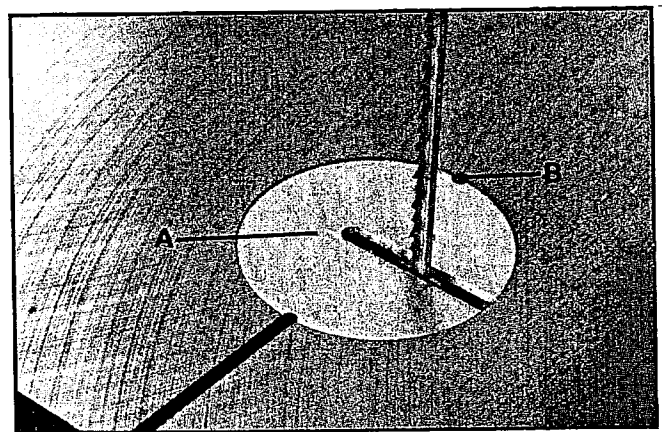

Fig. 19
Place table insert (A) Fig. 19, in the hole provided in the table, making sure the pin (B) in the table engages one of the indents in the table insert.